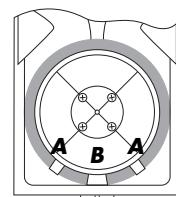

Fig. 3
- The filter sits loosely on the ventilator cage and is secured by two plastic hooks (Fig. 3/A). Take hold of the two ends of the filter in the general area of the electric lead socket (Fig. 3/B) and withdraw the filter from the ventilator cage.